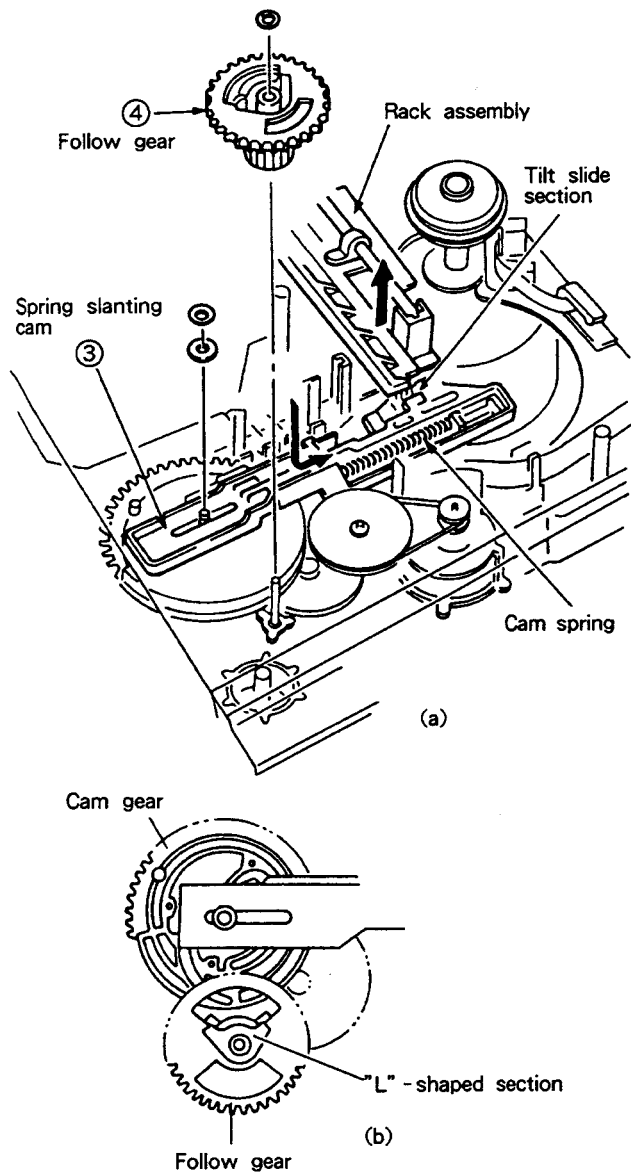

Fig. 7-15
- ③ Mount the spring slanting cam by raising the rack assembly in the direction of the arrow so that the tilt slide section comes under the rack assembly. Then, mount the cam spring. (Fig. 7-15(a))
- ④ Insert the follow gear so that the "L"-shaped section of the follow gear comes to the end of the cam gear, as shown in Fig. 7-15(b).